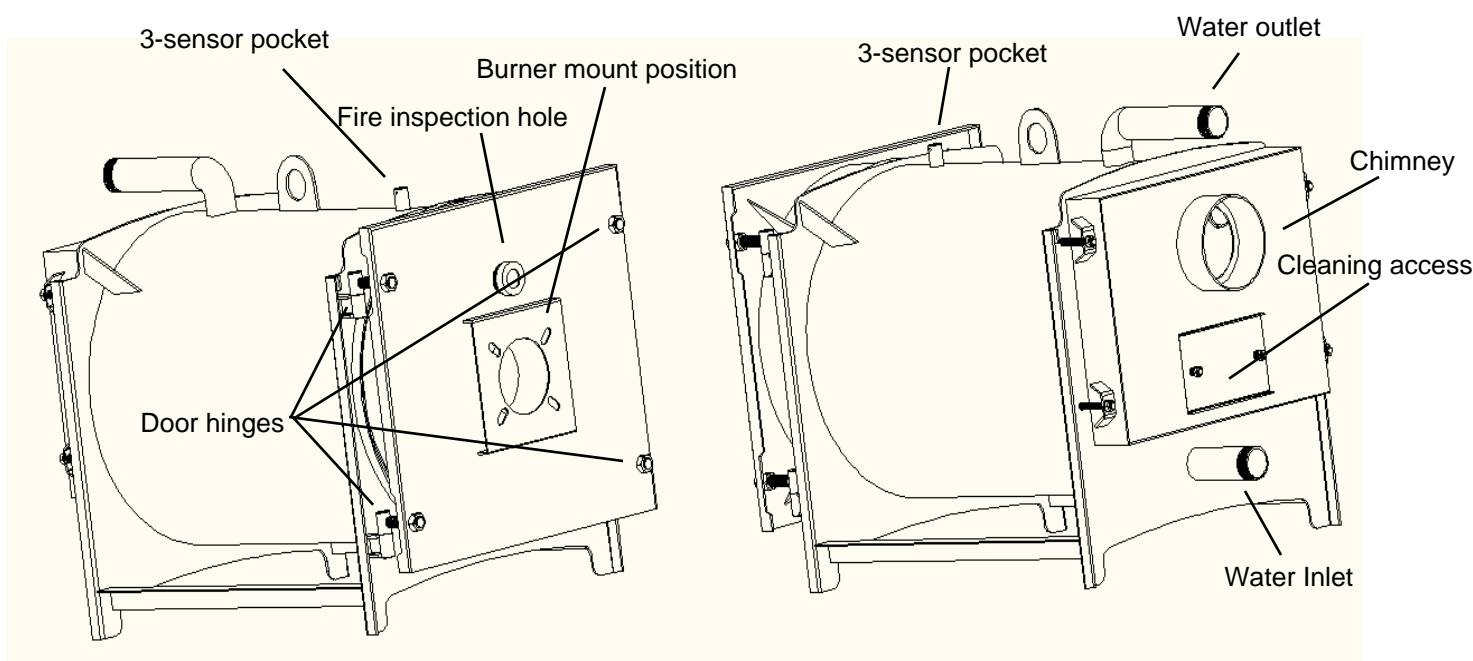

Figure 1: TES® Packaged Boiler
- B. ANY CLAIMS for damage or shortage in shipment must be filed immediately against the carrier by the consignee. No claims for variances from, or shortage in orders, will be allowed by the manufacturer unless presented within sixty (60) days after receipt of goods.
2. LOCATE BOILER in front of final position before removing crate. See Figure 1.
- A. Tilt boiler, "walk" boiler backward, and set rear legs down on floor. Tilt boiler backward, pull skid forward and set front legs down on edge of skid. Install close coupling, tee, and plug in return coupling, see Step 7 and Figure 1. Point tee toward permanent return location.